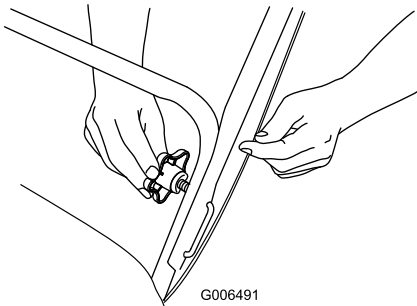

Figure 5
2. Insert the end of the “U”-shaped handle lock into the open hole in the handle and tighten the handle knobs until they are snug (Figure 5).